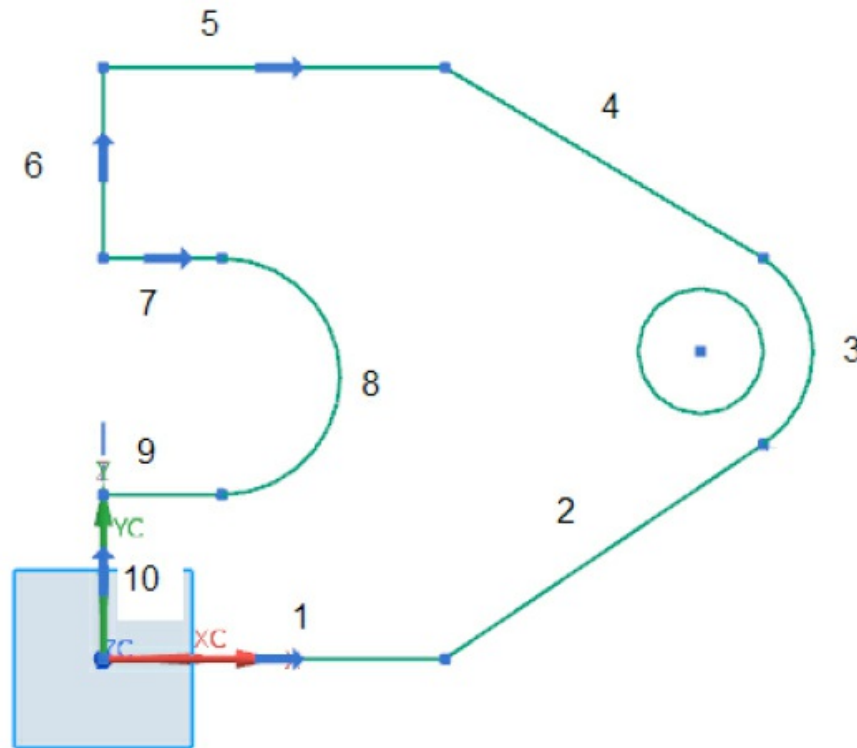

Figure 3-56 *The sequence to be followed for drawing the sketch*
- Draw the sketch using the **Profile** tool, refer to Figure 3-56.
1. Choose the **Profile** tool from the **Direct Sketch** group. Draw the outer profile of the sketch, refer to Figure 3-56. You can draw the first line with exact dimension and then draw the remaining sketched entities with dimension values close to the required dimension values. Note that the start point of the line 1 is at the origin.
2. Next, choose the **Circle** tool from the **Direct Sketch** group. Move the cursor over the arc that is numbered 3 in Figure 3-56; the center point of the arc is highlighted.
3. Once the center point gets highlighted, move the cursor over it and press the left mouse button to specify the center point of the circle. Now, move the cursor away from the center point and specify the diameter of the circle by clicking the left mouse button or by entering the diameter value in the diameter input box. The circle is created, refer to Figure 3-56.